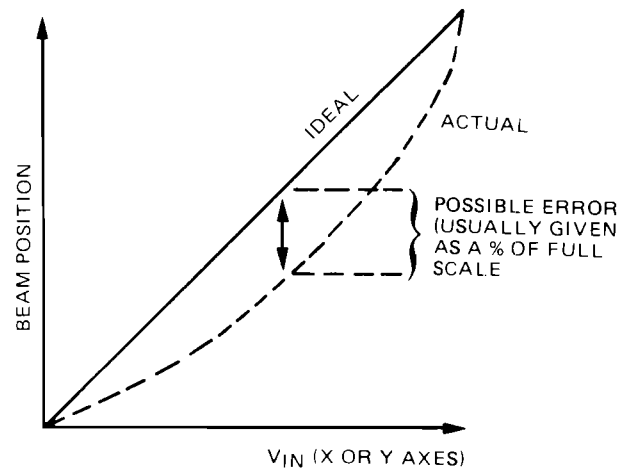

Figure 3-6. Linearity of Beam Position Showing Ideal Position and Possible Error
**3-26. LINEARITY.** Linearity (see figure 3-6) refers to the linearity to the relationship between the X or Y input voltage and the beam position (do not confuse this with the geometry specification).